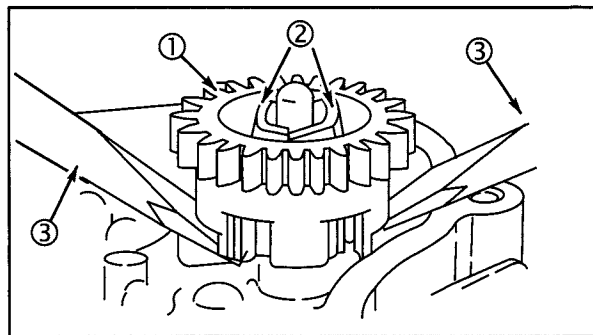

Fig. 15
1. The governor gear should spin freely and slide on the governor gear shaft. The flyweights (2), Fig. 15, must move freely on the hinge pins.
2. If necessary, remove the governor gear (1) from the crankcase cover with two screwdrivers (3). Remove the washer from under the governor gear.